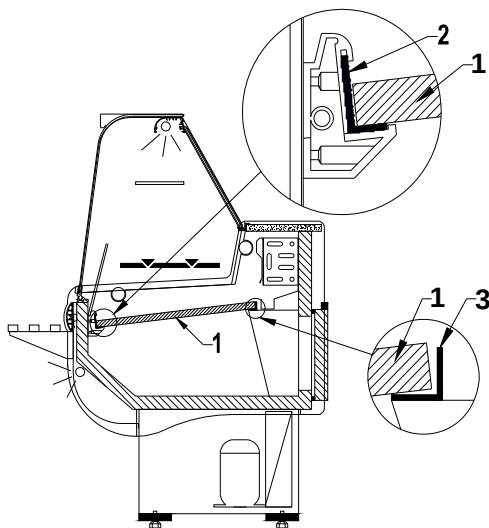

Fig.3 Assembly of display shelves
1. Mount display shelves Fig.3/ 1 \(p.7\)